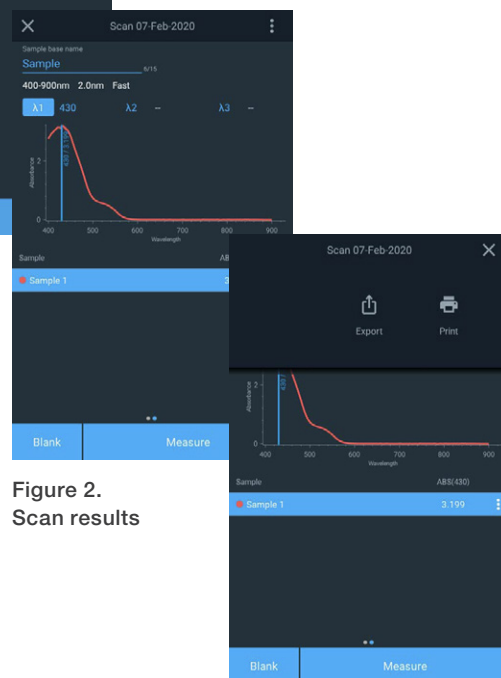

Figure 2.
6. Once the scan is completed, use one of the cursor lines to select the wavelength corresponding to the largest absorbance value. Record the wavelength of maximum absorption, known as  $\lambda_{\max}$  in the Lab Report (Figure 2).